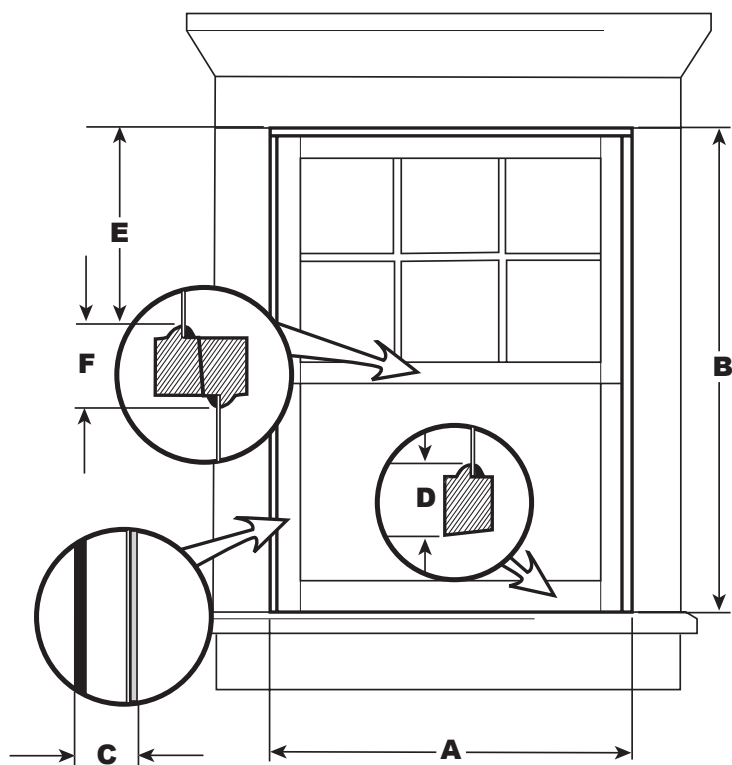

Figure 6
- Step 1. Measure your existing windows stile width between the glass pane and the casing (see point **C**, figure 6).
- Step 2. Measure the width of the sill rail of your window (see point **D**, figure 6).
- Step 3. Measure the distance from the exterior casing to the top of the check rail (see point **E**, figure 6).
- Step 4. Measure width of the check rail (see point **F**, figure 6).